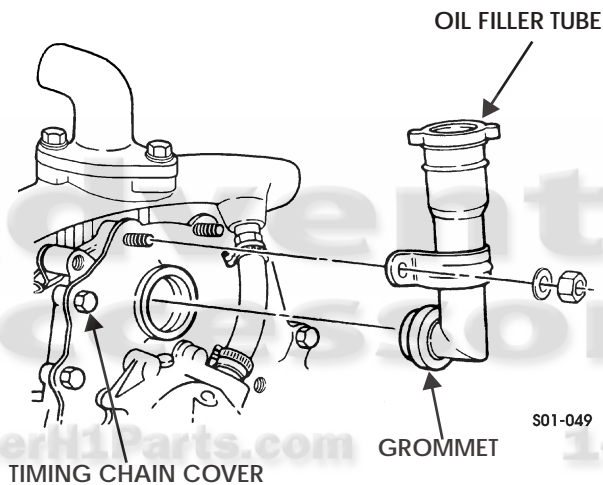

Figure 1-37: Engine Oil Filler Tube
Remove two nuts, washers, and oil filler tube from timing chain cover (Figure 1-37).
1. Coat grommet with lubricating oil (Figure 1-37).